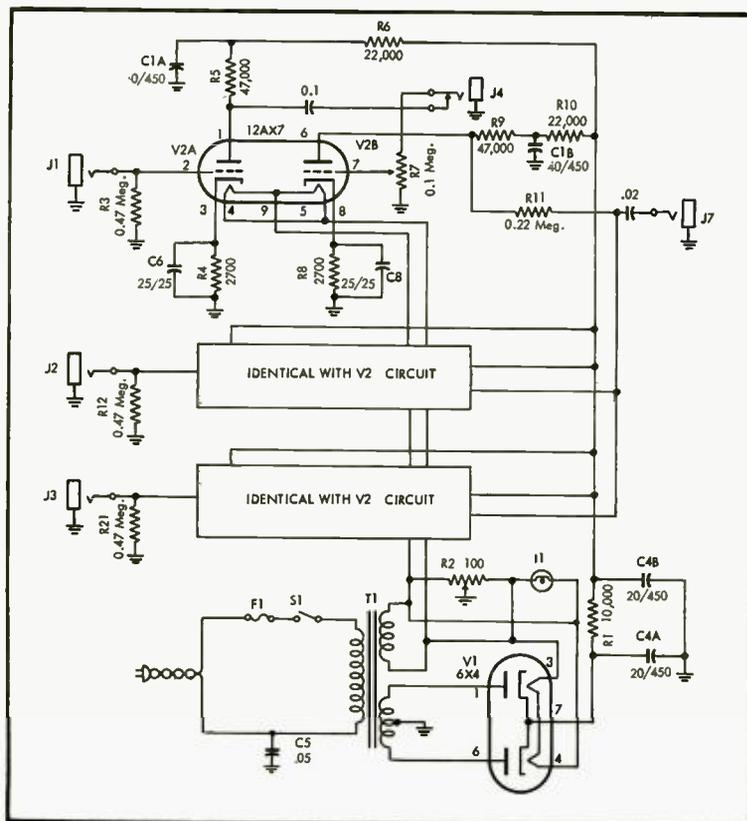

Fig. 1. Simplified schematic of three-channel mixer-amplifier which is flexible in application.
**A.** Figure 1 shows a schematic of such a mixer. It has three separate channels, and each one can be used with either microphone or high-level input.  $J_1$ ,  $J_2$  and  $J_3$  are the microphone inputs, while  $J_4$  is the phono input for the first stage.  $J_5$  is the output jack. When a high-level source is connected to any of the three inputs designed for it, the mike input corresponding to that channel is disabled by the switching action of the jacks used. This was done in order to prevent the shunting action of the mike stage from adversely affecting the frequency response.  $R_1$  is a hum balancing potentiometer. Turn the volume up on all
Aside from the method shown in the schematic in Fig. 1, there are two alternative means for connecting the filaments of the three tubes. By connecting these filaments to a five-volt source rather than a six-volt source, noise output from the mixer is lowered, with some sacrifice in gain. The filaments could also be connected to a d.c. source rather than to alternating current, which would result in a considerable reduction in hum, although the hum is quite low anyway.